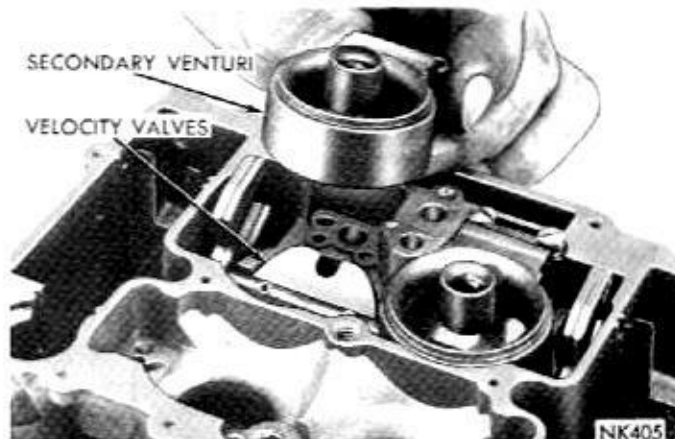
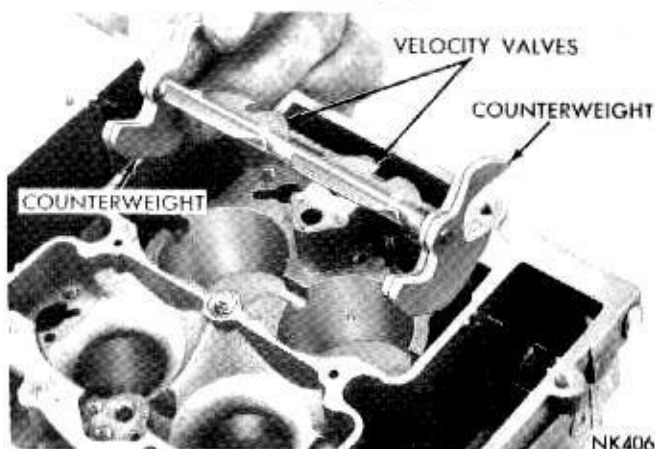

Fig. 6—Removing or Installing Secondary Venturi Cluster
Fig. 7—Removing or Installing Velocity Valves
(5) Remove screws that attach secondary venturi (choke and pump side) to main body. Lift secondary venturi assemblies straight up and away from body, (Fig. 6). Remove velocity valves (Fig. 7).